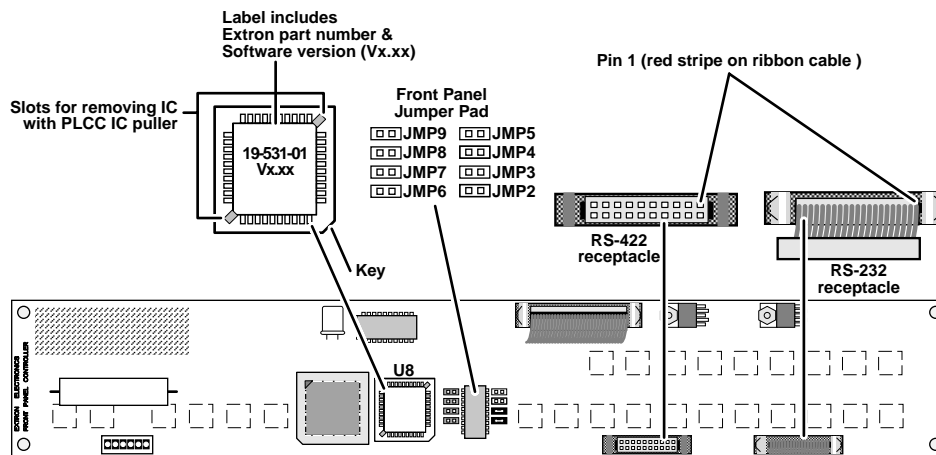

Figure 42 — Front panel board, CrossPoint 84, 88, 124, and 128
2. Locate the switcher's front panel board (figure 42 (CrossPoint 84, 88, 124, and 128) or figure 43 (CrossPoint 168 or 1616)).
2. Locate the RS-232/RS-422 ribbon cable that connects the front panel board to the rear panel RS-232/422 port (figure 42 (CrossPoint 84, 88, 124, and 128) or figure 43 (CrossPoint 168 or 1616)). Note which receptacle on the front panel board that the RS-232/RS-422 cable plugs into, and remove the cable from its receptacle (see step 4 in "Swapping the serial ports").
5. Locate IC U8 (CrossPoint 84, 88, 124, and 128) (figure 42) or IC U7 (CrossPoint 168 or 1616) (figure 43).
2. Locate the front panel jumper (figure 42 (CrossPoint 84, 88, 124, and 128) or figure 43 (CrossPoint 168 or 1616)).